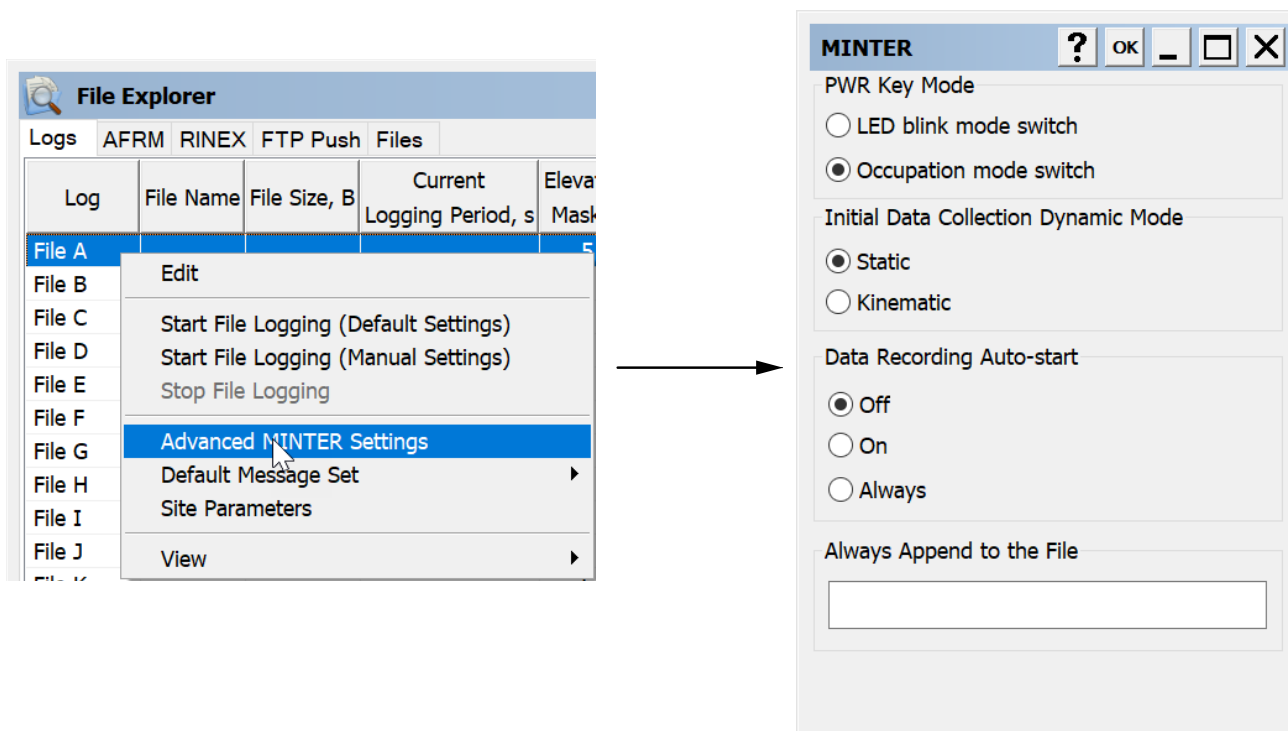

Figure 3-4: Context Menu of Logs — MINTER
- In the **Logs** tab, right-click any place to open the context menu and select **Advanced MINTER Settings**. The **MINTER** screen appears (Figure 3-4).